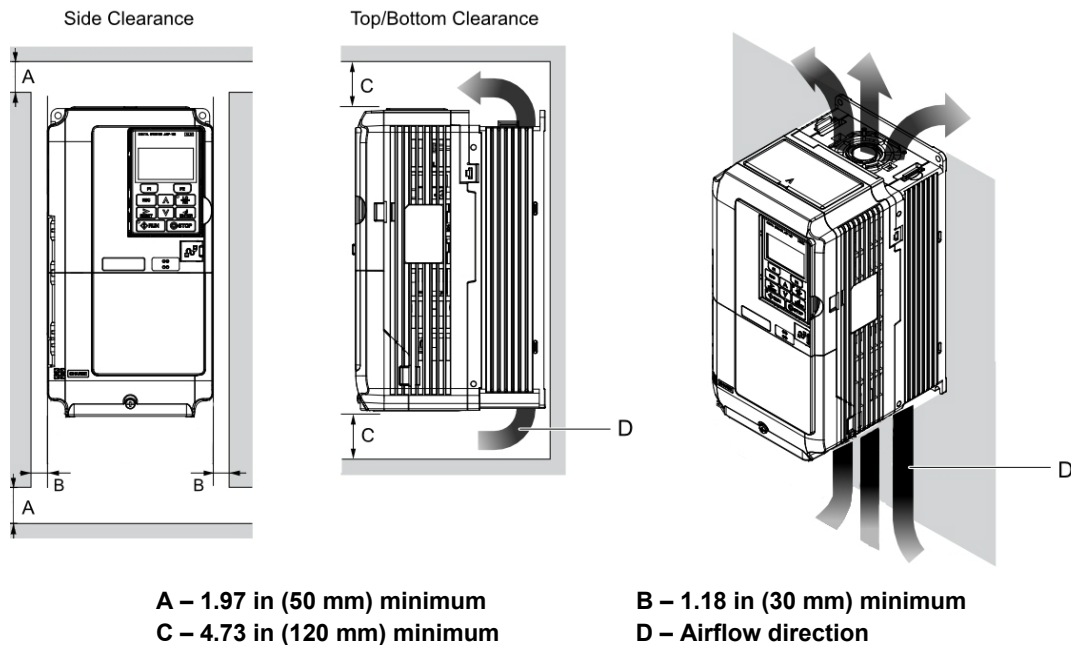

Figure 2-3: Correct Installation Spacing
- Ensure that the air can flow freely around the heat sink as shown in Figure 2-3.